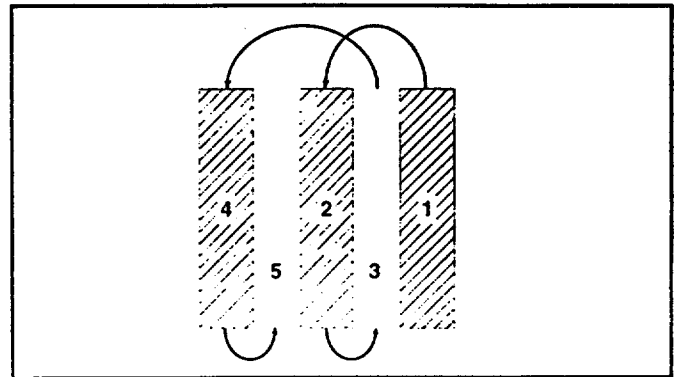

FIG. 14
- Tilling is digging into, turning over, and breaking up packed soil before planting. Loose, unpacked soil helps root growth. Best tilling depth is 4" to 6" (10-15 cm). A tiller will also clear the soil of unwanted vegetation. The decomposition of this vegetable matter enriches the soil. Depending on the climate (rainfall and wind), it may be advisable to till the soil at the end of the growing season to further condition the soil. For easier handling of your tiller, leave about 8 inches (20 cm) of untilled soil between the first and second tilling passes. The third pass will be between the first and second (See Fig. 14).